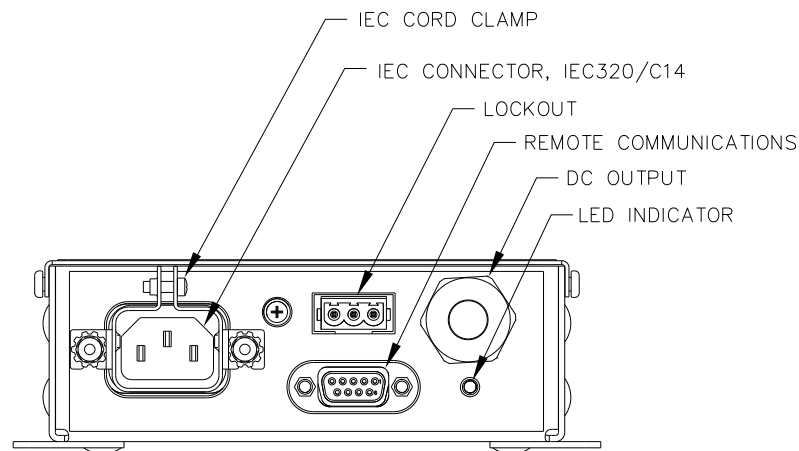

Figure 5-1: Charger User Interface
Figure 5-1 identifies the items found on the charger user interface.
The charger includes one (1) local LED that can display three (3) colors to indicate charger status and fault information (see Figure 5-1). The functionality of the LED is outlined below. If an optional remote LED is being used, it will provide the same functionality.